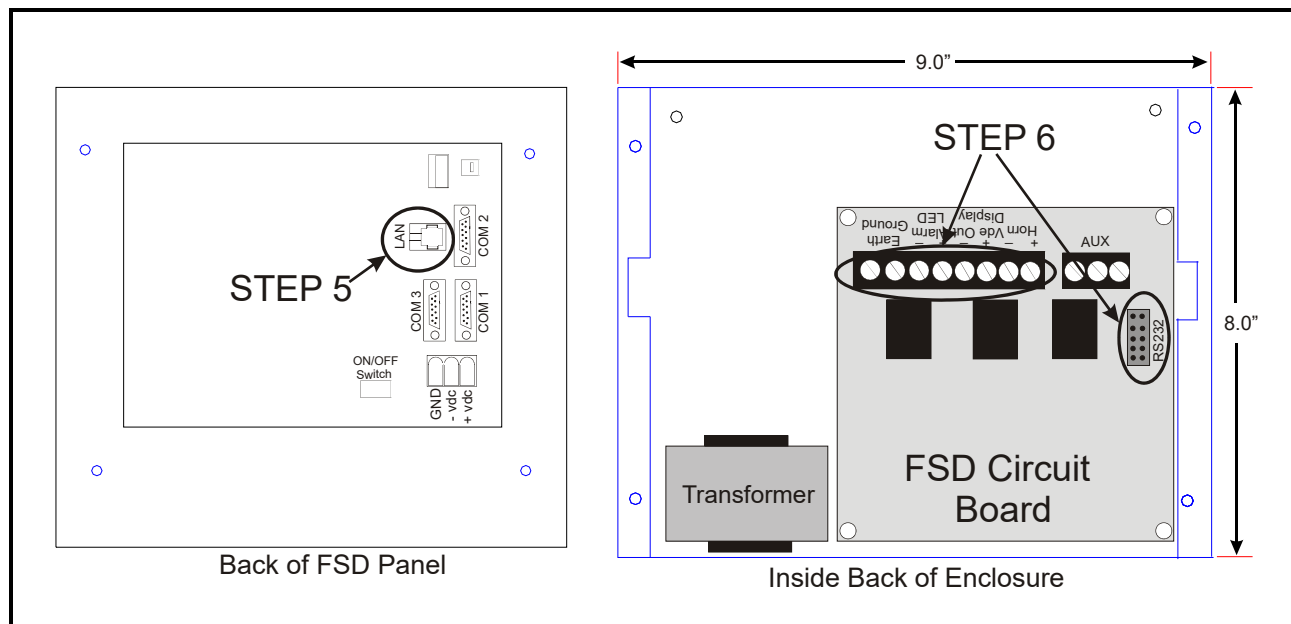

Figure 2-3 - Wiring Layout of FSD Enclosure
5. Step 5: Plug the Ethernet cable into the RJ45 connector (LAN) on the back of the FSD's display module (P/N 750-5100) as indicated by **Step 5 of Figure 2-3**.
6. Step 6: Reconnect the 8-pin connector and RS232 cable to the circuit board in **Step 6 of Figure 2-3**.